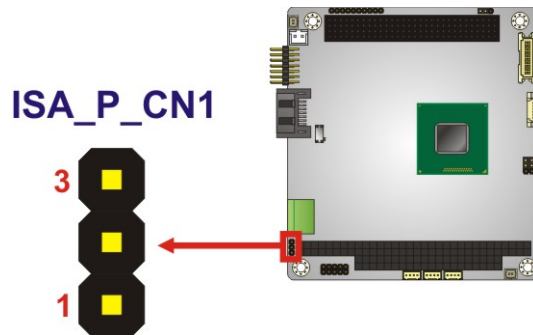

Figure 3-14: PC/104-Plus Power Connector Pinouts
- CN Location:** See **Figure 3-14**